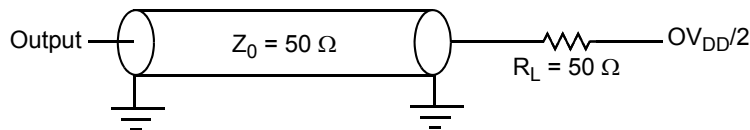

Figure 39. AC Test Load for the JTAG Interface
- All outputs are measured from the midpoint voltage of the falling/rising edge of t_{TCLK} to the midpoint of the signal in question. The output timings are measured at the pins. All output timings assume a purely resistive 50-Ω load (see Figure 39). Time-of-flight delays must be added for trace lengths, vias, and connectors in the system.
- The symbols used for timing specifications follow the pattern of $t_{(first\ two\ letters\ of\ functional\ block)(signal)(state)(reference)(state)}$ for inputs and $t_{(first\ two\ letters\ of\ functional\ block)(reference)(state)(signal)(state)}$ for outputs. For example, t_{JTDVKH} symbolizes JTAG device timing (JT) with respect to the time data input signals (D) reaching the valid state (V) relative to the t_{JTG} clock reference (K) going to the high (H) state or setup time. Also, t_{JTDXKH} symbolizes JTAG timing (JT) with respect to the time data input signals (D) went invalid (X) relative to the t_{JTG} clock reference (K) going to the high (H) state. Note that, in general, the clock reference symbol representation is based on three letters representing the clock of a particular functional. For rise and fall times, the latter convention is used with the appropriate letter: R (rise) or F (fall).